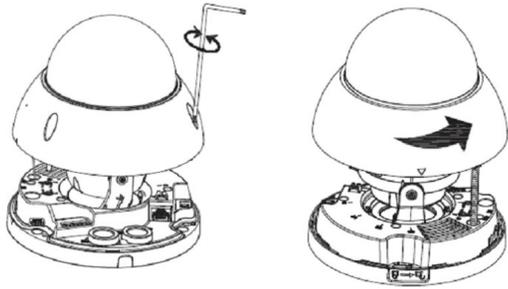

Figure 2-1
Step 1 Remove the installation position map from the accessories bag and paste it on the installation surface according to your monitoring area requirements. Use the wrench in the accessories bag to unscrew the three torx head screws on the dome cover and then remove the dome cover. See Figure 2-1.